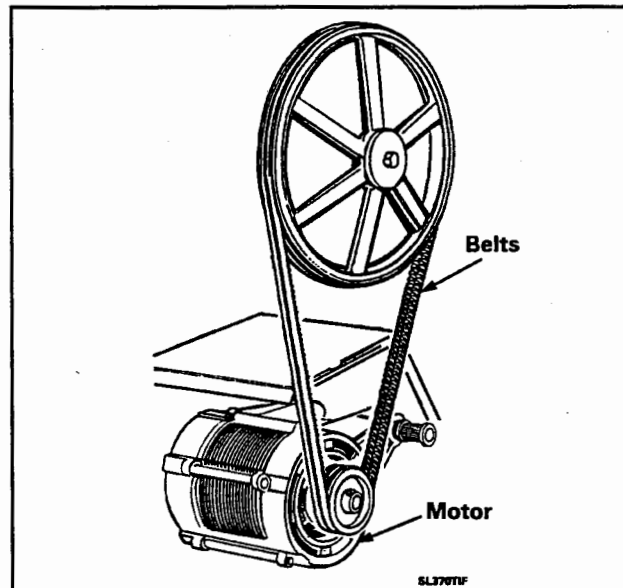

Figure 2-19
3. Lift motor to relieve belt tension and roll belts off of the basket drive pulley. (See Figure 2-19)